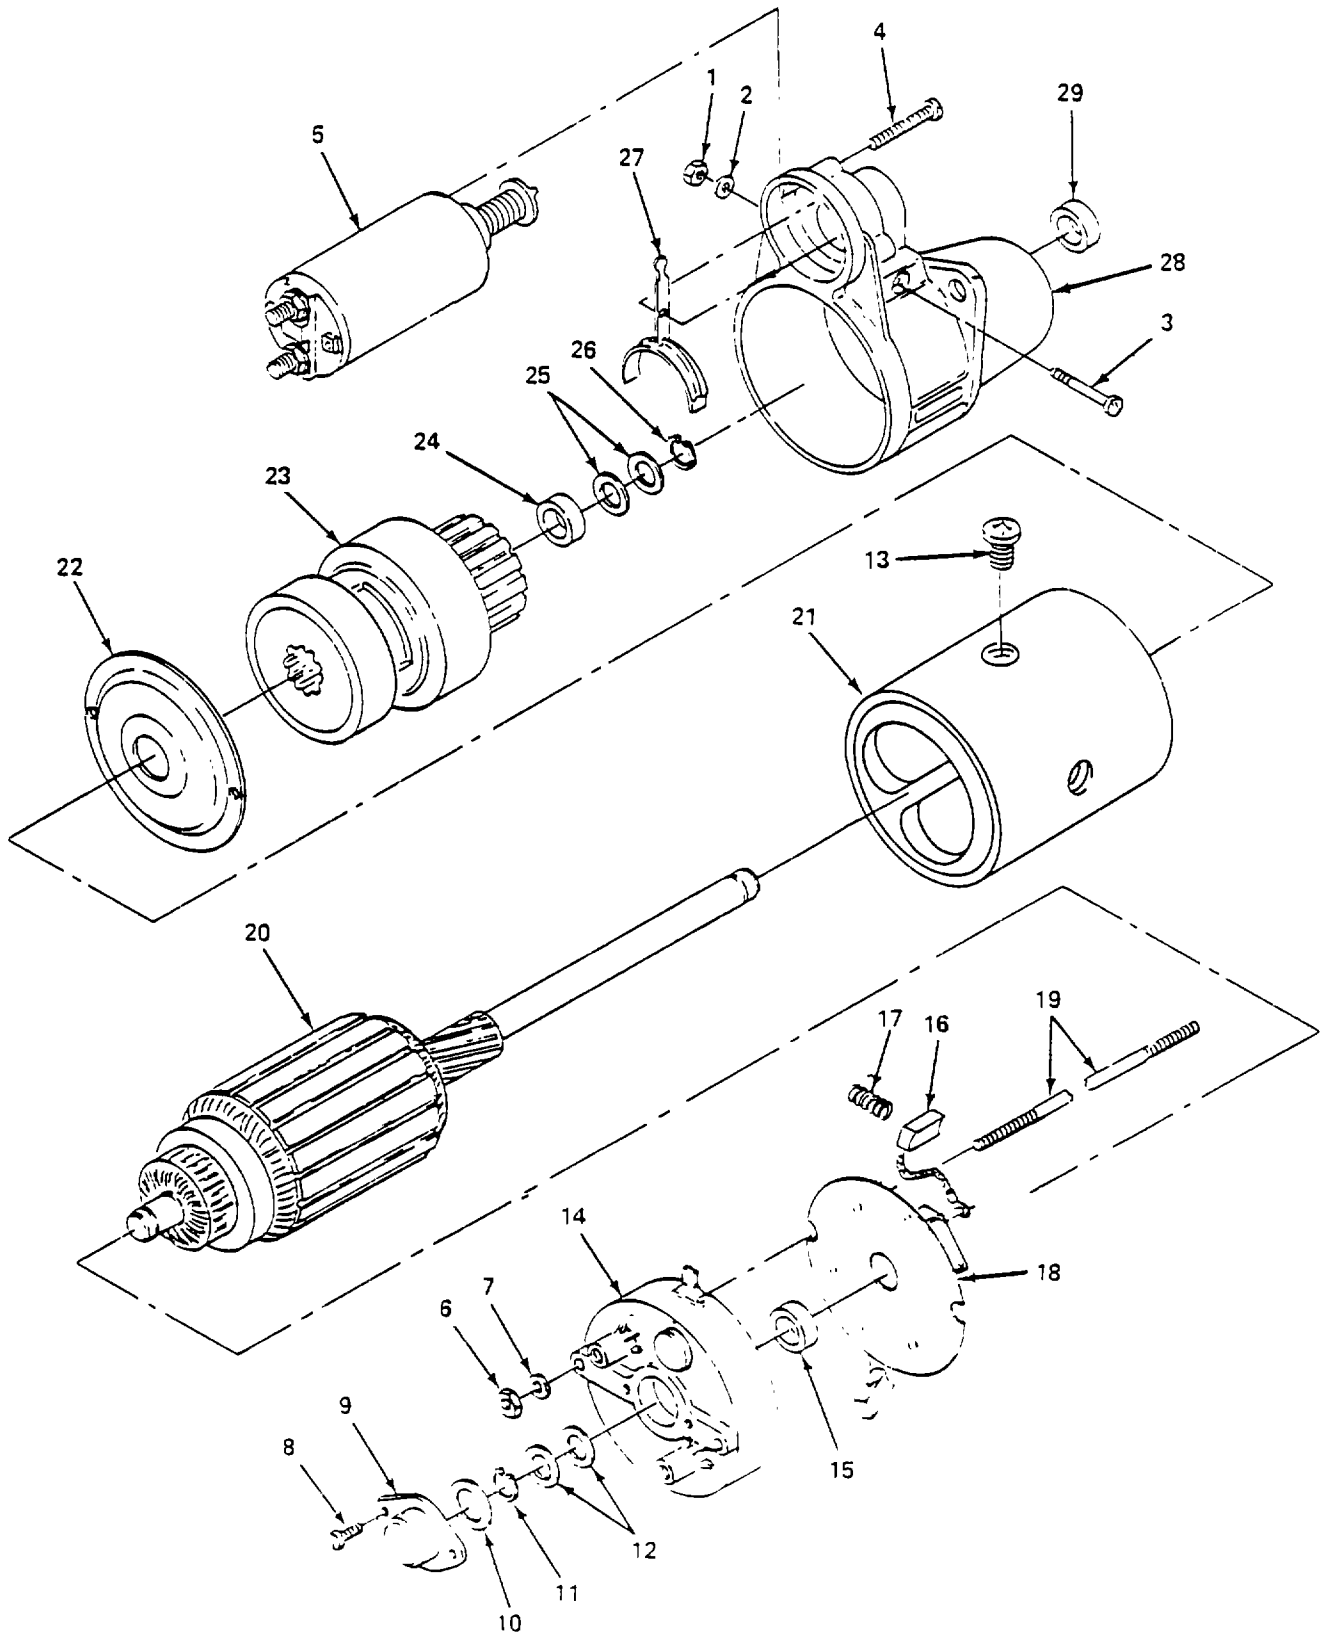

Figure 6-20. Starter, Disassembly.
- (1) *Disassemble.* (figure 6-20)
- (a) Remove nut (1), lockwasher (2), and screw (3).
- (b) Remove three screws (4) and remove relay (5).
- (c) Remove two nuts (6) and washers (7).
- (d) Remove two screws (8) and cap (9).
- (e) Remove seal (10), half-moon ring (11), and two washers (12).
- (f) Remove four screws (13).
- (g) Remove commutator bearing (14), bearing bushing (15), four brushes (16), compression springs (17), and brush holders (18).
- (h) Remove two threaded pins (19), armature (20), and winding (21).
- (i) Remove bearing bushing support (22), pinion (23), bearing bushing (24), seal (25), washer (26), shaft lever (27), drive bearing (28), and bearing bushing (29).
- (j) Inspect brushes (16) and replace if worn, cracked, or otherwise damaged.